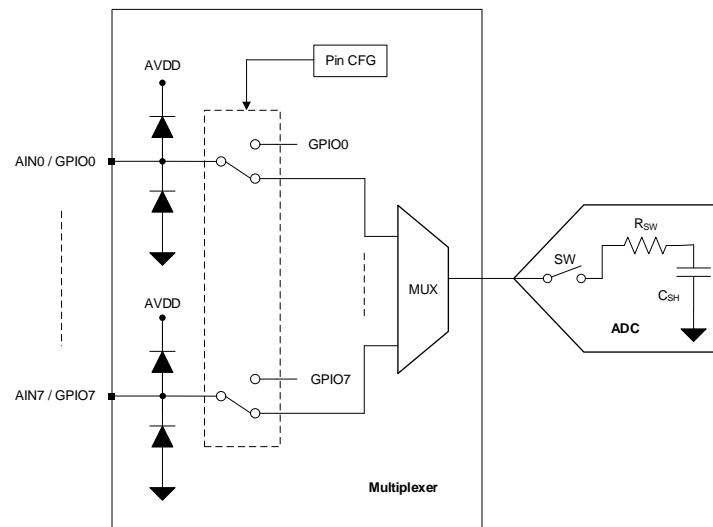

Figure 3. Analog Inputs, GPIOs, and ADC Connections
The eight channels of the multiplexer can be independently configured as ADC inputs or general-purpose inputs/outputs (GPIOs). Figure 3 shows that each input pin has ESD protection diodes to AVDD and GND. On power-up or after device reset, all eight multiplexer channels are configured as analog inputs.
Figure 3 shows an equivalent circuit for pins configured as analog inputs. The ADC sampling switch is represented by ideal switch (SW) in series with the resistor R_{SW} (typically 150 Ω) and the sampling capacitor, C_{SH} (typically 12 pF).